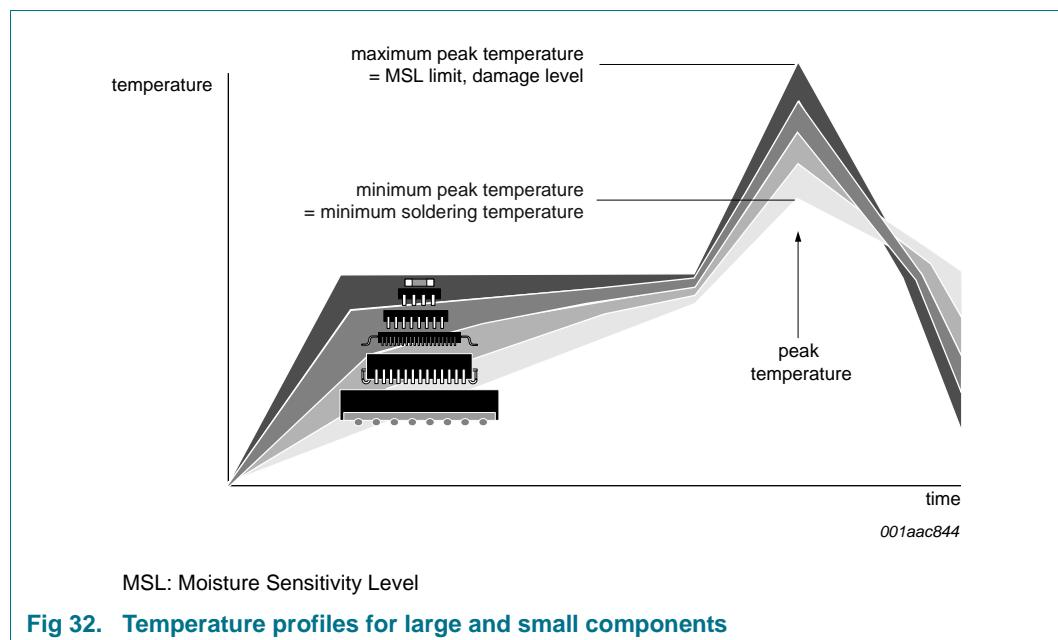

Fig 32. Temperature profiles for large and small components
- Lead-free versus SnPb soldering; note that a lead-free reflow process usually leads to higher minimum peak temperatures (see Figure 32) than a SnPb process, thus reducing the process window
Studies have shown that small packages reach higher temperatures during reflow soldering, see Figure 32.